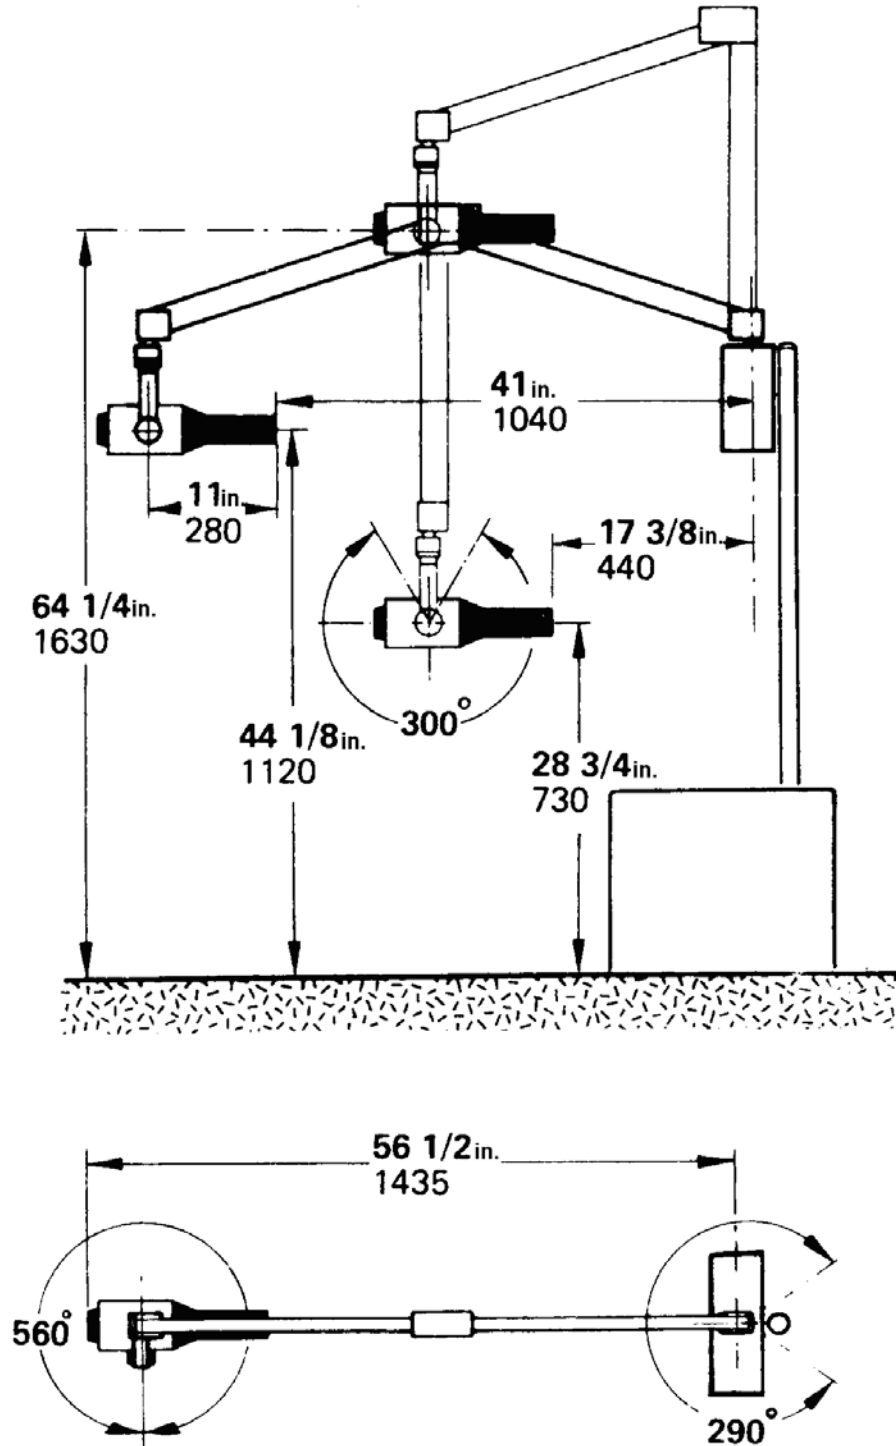

Figure 3-5. Scissors arm.
c. **Scissors Arm.** Refer to figure 3-5 for the features and layout of the scissors arm. The scissors arm is spring-loaded to support the X-ray head in a drift-free condition over an operating range as shown. A five conductor wiring harness connects the X-ray head to the X-ray control via the scissors arm.